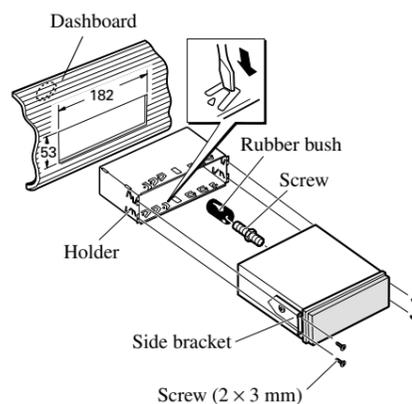

Fig. 13
2. **Install the unit into the dashboard. (Fig. 13)**